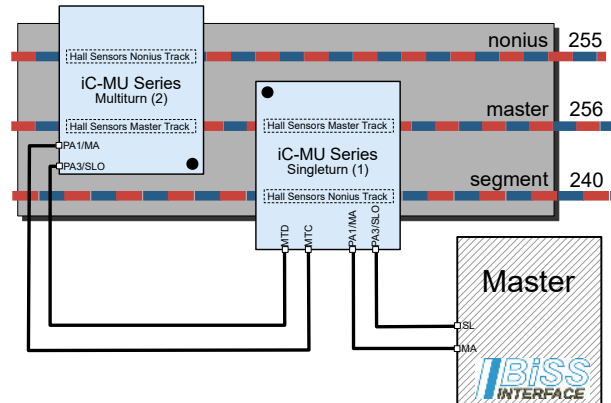

Figure 42: 3-track nonius with 2 iC-MU
The construction of such a system is shown as an example in Figure 42 and the configuration in Table 68.
To facilitate the initial configuration of an iC-MU as a SSI multitrans device the command SWITCH can be used (see page 60). The singleturn iC-MU (1) in Figure 42 has to enable the direct communication to the multitrans sensor by setting GET\_MT to 1. The configuration of iC-MU (2) can take place using the BiSS protocol. After the configuration of the external multitrans MODEA\_NEW and RPL\_NEW are used to set the target configuration of MODEA and RPL. After that the command SWITCH is executed. By reading STATUS1 it is possible to control if there was an error while executing the command. After the next startup or after the execution of the command SOFT\_RESET iC-MU starts with the interface configured with MODEA\_NEW and RPL\_NEW.